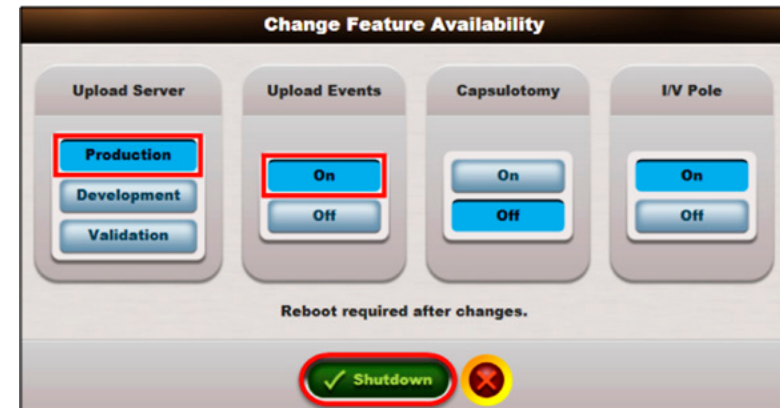

Figure 4-40 Change Feature Availability Popup
- 17.2.4 In Change Feature Availability popup window shown in Figure 4-40, select Production for Upload Server and select On for Upload Events.